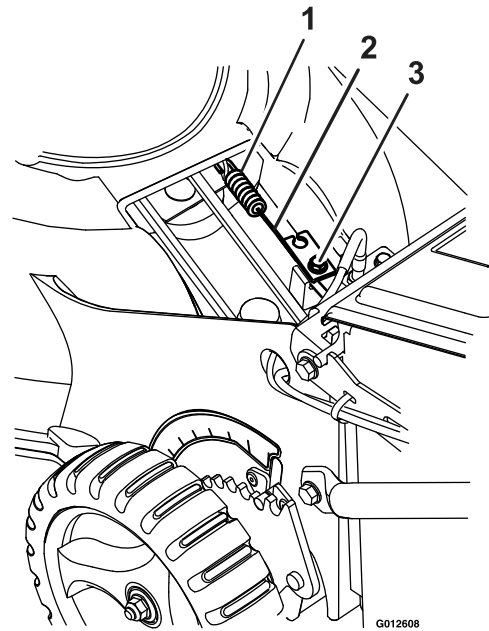

Figure 30
4. Loosen the cable clamp screw until the cable conduit slides (see Figure 30).